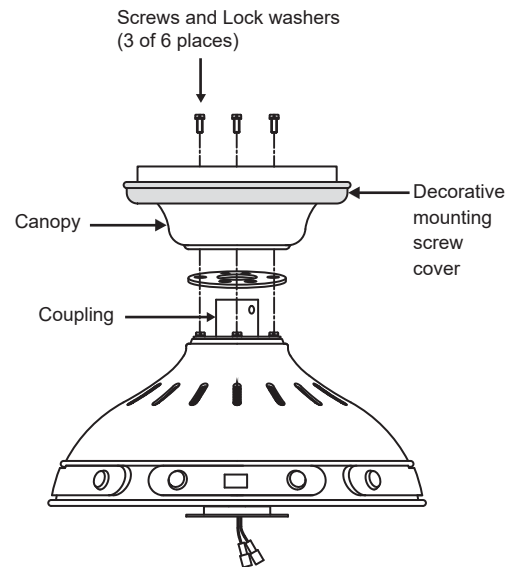

Fig. 9
Step 2. Remove three of the six screws and lock washers (every other one) from the coupler on top of the motor assembly. Place the ceiling fan canopy and the rubber gasket over the coupler and align the mounting holes with the holes in the coupler. Attach the canopy with the rubber gasket and the three screws and lock washers previously removed, and then push the decorative mounting screw cover "down" and let it rest on top of the motor housing. (Fig. 9)